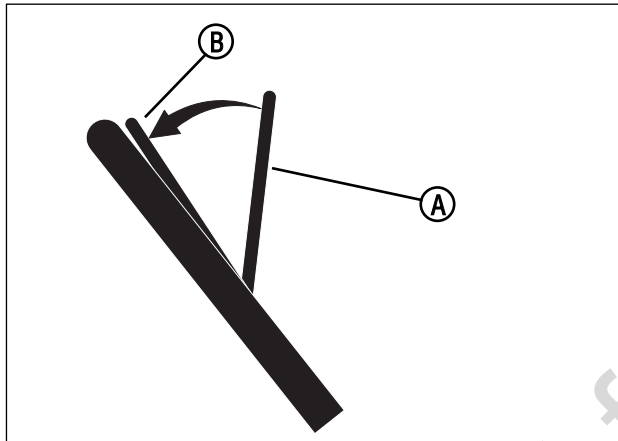

Figure 16: Operating the engine stop lever
Release the engine stop lever (A, Figure 16) and the engine and the blade will automatically stop. To run the engine, hold the engine stop lever in the Operating position (B).